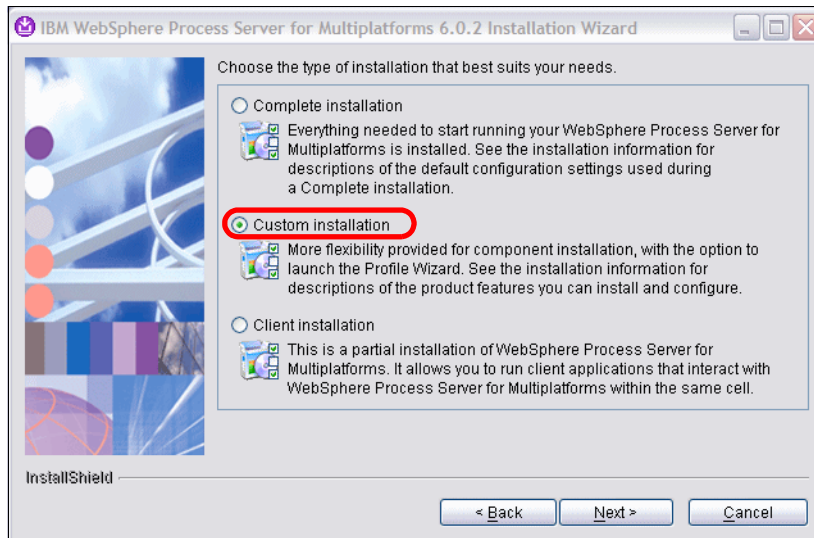

Figure A-18 WebSphere Process Server: Custom installation
- ▶ Select *Custom installation* (Figure A-18).